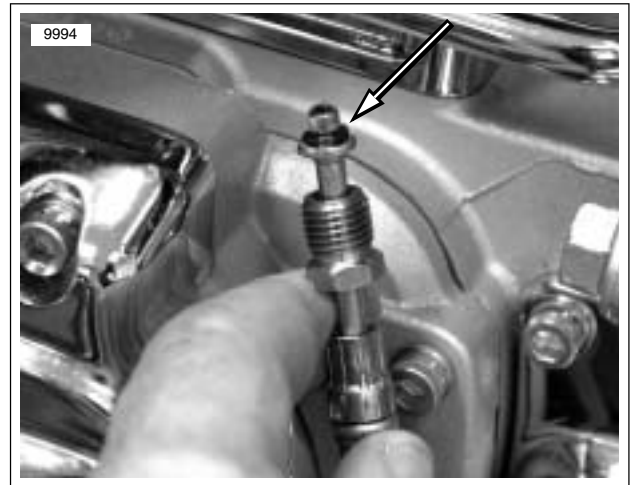

Figure 7-3. Clutch Fluid Line O-ring
8. See Figure 7-3. Remove o-ring on end of clutch fluid line. Discard o-ring.
3. See Figure 7-3. Install a **new** clutch fluid line o-ring on the end of the clutch fluid line.